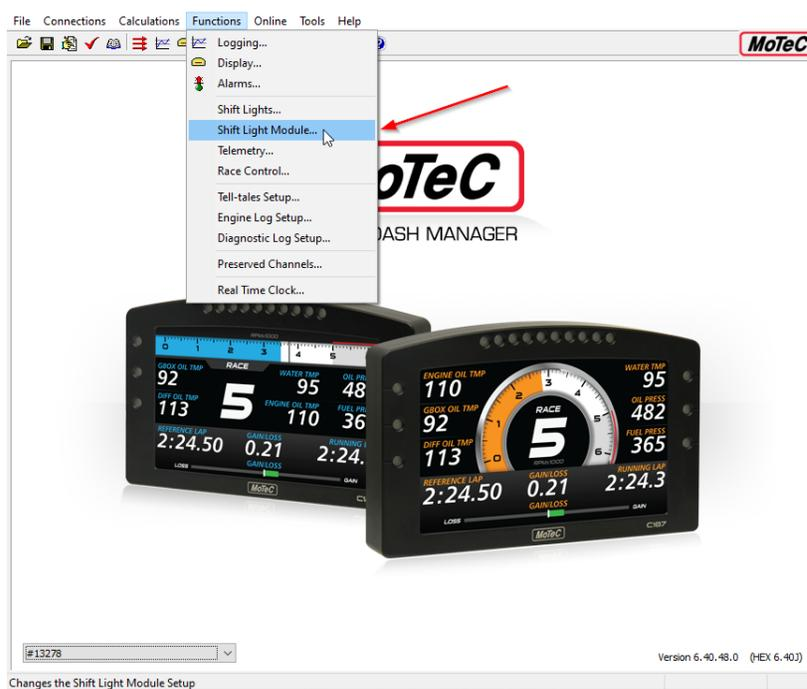

Figure 4.61: Motec Dash Manager – shift light module.
2. Navigate to the ‘Shift Light Module...’ shown in Figure 4.61.